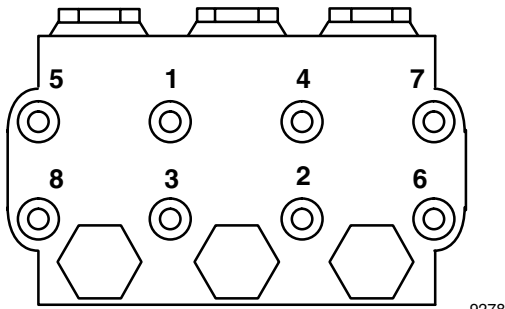

Fig. 3
8. Install the capscrews and washers finger tight. Torque the screws to 8.8 ft-lb (12 N•m) following the tightening pattern (Fig. 3). Uneven tightening could cause the manifold to bind or jam.